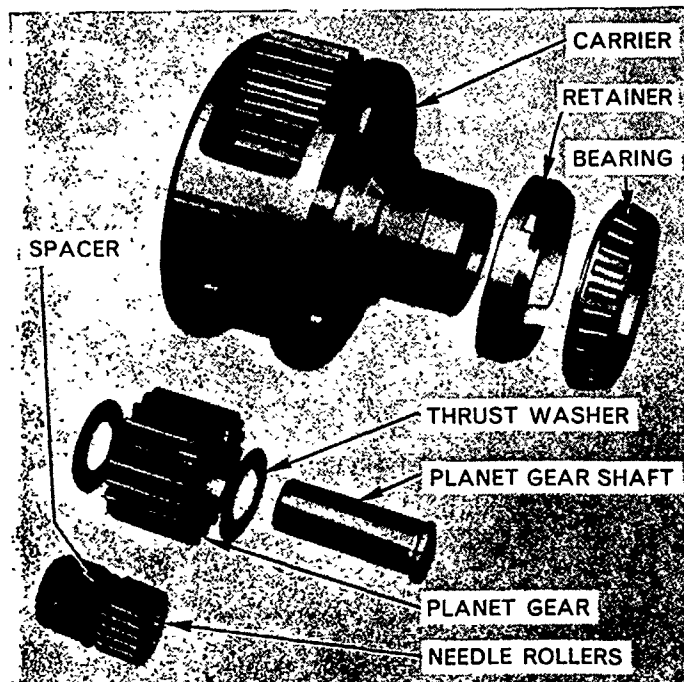

Figure 53
4. Remove the needle bearings and bearing spacers from the bores of the gears, Figure 53.